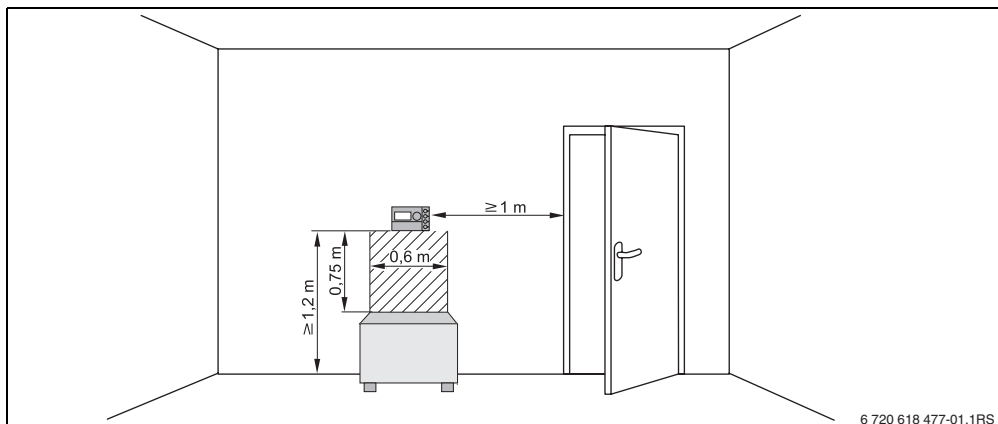

Fig. 1 Minimum clearances for installation in a reference room
- Installation position on an internal wall (→ Fig. 1)
- Allow clearance below the programming unit (→ Fig. 1, shaded area) (to ensure correct temperature measurement).